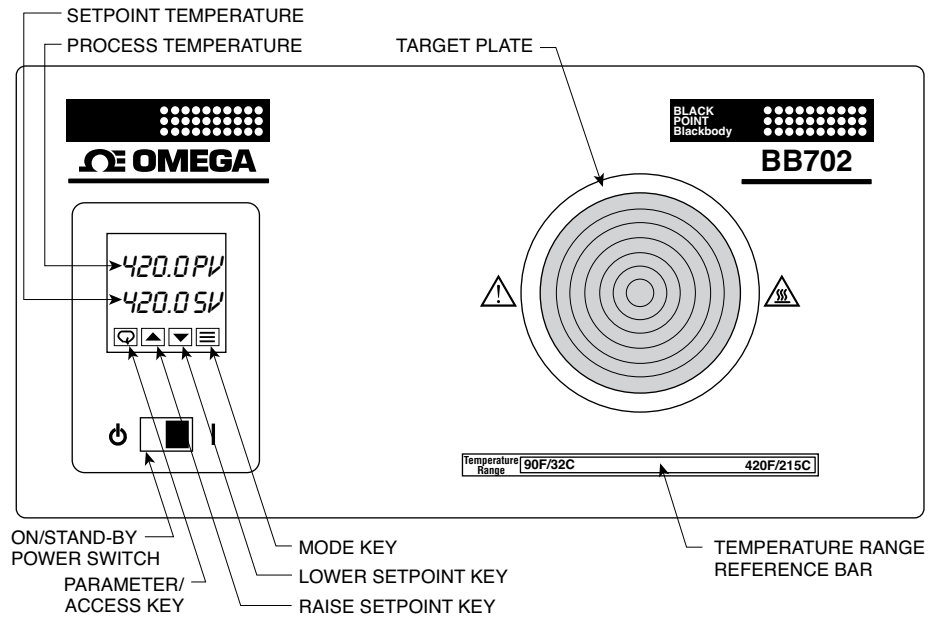

Figure 3. Front Panel
The layout of the front panel is shown in Figure 3. The BB702 incorporates a PID digital setpoint controller. The upper display indicates the blackbody target plate temperature known as (PV) Process Variable, while the lower display indicates the programmed setpoint known as (SV) Setpoint Variable. Making changes to the setpoint, units of measure and communication settings are made via the “▲” and “▼” keys. Holding a key in, continuously, will cause the setpoint temperature to advance more quickly to a desired value. Three scanning speeds are provided: slow, medium and fast. The minimum and maximum setpoints are locked.